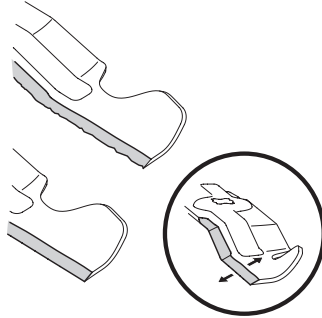

Figure 25
- To properly sharpen the cutting blade, remove equal amounts of metal from both ends of the blade along the cutting edges, parallel to the trailing edge, at a 25°- to 30° angle. Always grind each cutting blade edge equally to maintain proper blade balance. See Figure 25.